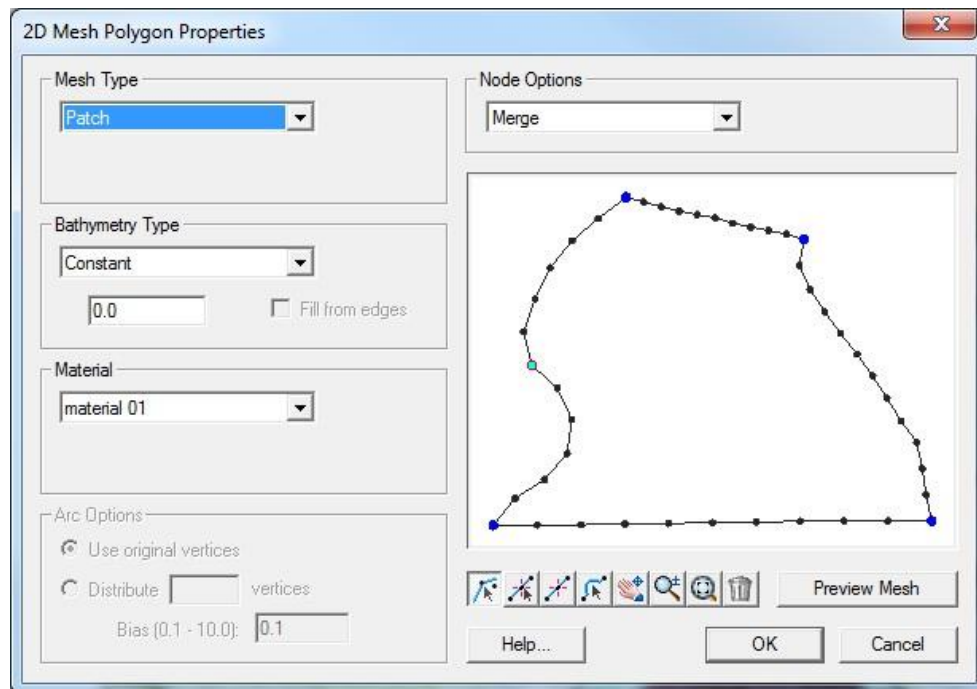

Figure 14 The Feature Polygon Attributes dialog
1. Choose the **Select Feature Polygon**  tool and double-click on the bottom middle polygon (the shape is seen in Figure 14 above). The *2D Mesh Polygon Properties* will appear.